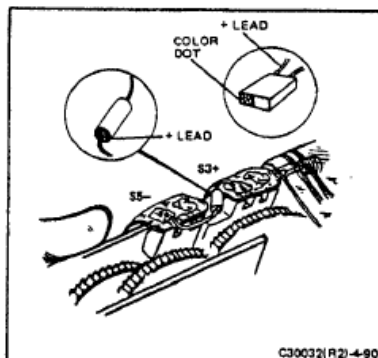

FIGURE 4-90 FAIRCHILD SHUTTER CAPACITOR INSTALLATION (TWO CAPACITOR TYPES)
NOTE: If the camera has a Fairchild shutter, install a .047 to .1 MF polarized capacitor to suppress electrical noise from a switch S3 contact bounce. If the subject camera is so equipped, no further action is required. If not, connect the positive lead of the capacitor to the positive S3 contact and the negative lead to the negative contact of the S5 switch. See Figure 4-90.
- c. Refer to Figure 4-90. Remove the S3 adjusting screw. Note that a tab on the switch body rides in a slot to prevent S3 from rotating.